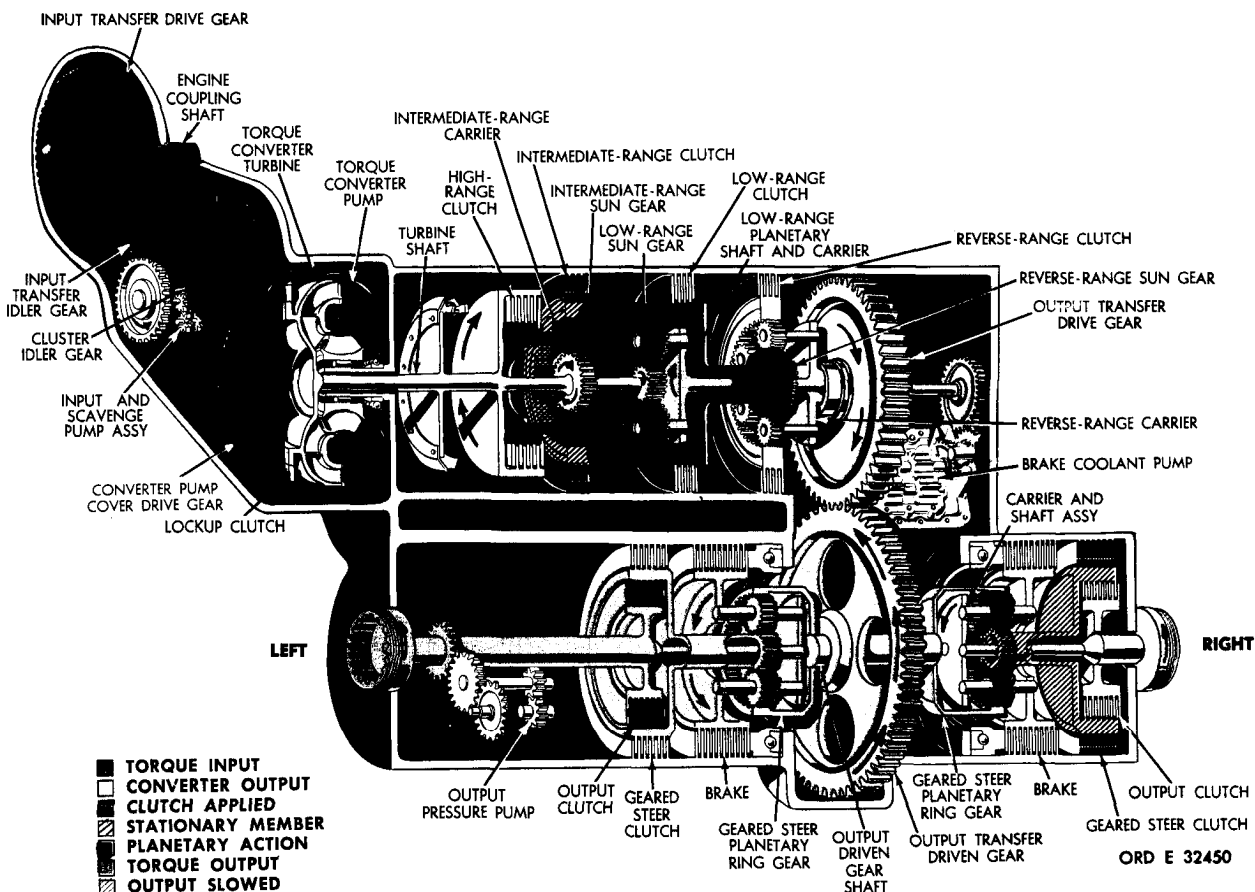

Figure 31. Third-gear, full-right-steer torque path, converter operation
**55. TORQUE PATH - THIRD GEAR, FULL-RIGHT STEER, CONVERTER OPERATION (fig. 31)**